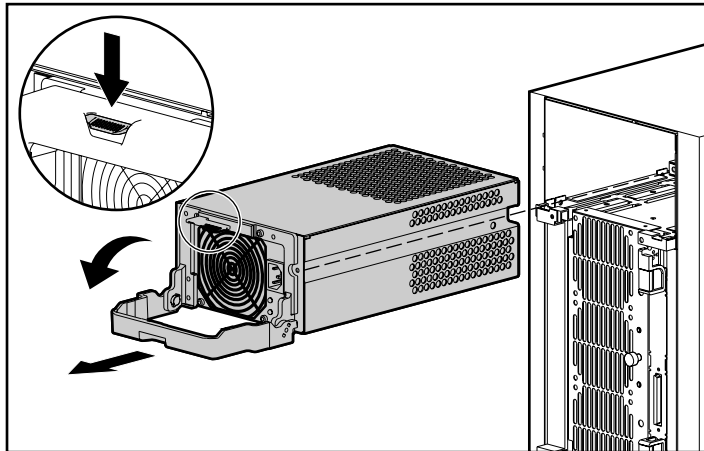

Figure 4-8. Removing the power supply
2. Depress the catch on the power supply handle and pivot the handle open to release the power supply. Pull the supply from the chassis. See Figure 4-8.